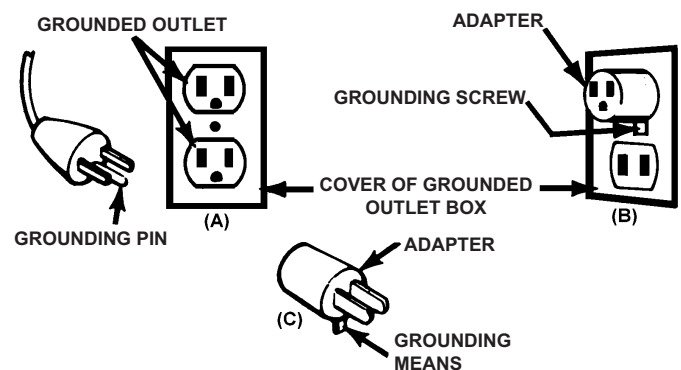

FIGURE 1 GROUNDING METHODS
This battery charger is designed for use on a nominal 120-volt circuit and has a grounded plug that looks like the plug illustrated FIGURE 1 (A). This plug should be used in a grounded outlet. The plug pins must fit the receptacle (outlet).
ADAPTER: A temporary adaptor, as shown in FIGURE 1 (B) and (C), may be used to connect the charger plug to a two-pole receptacle (outlet) as shown FIGURE 1 (B).